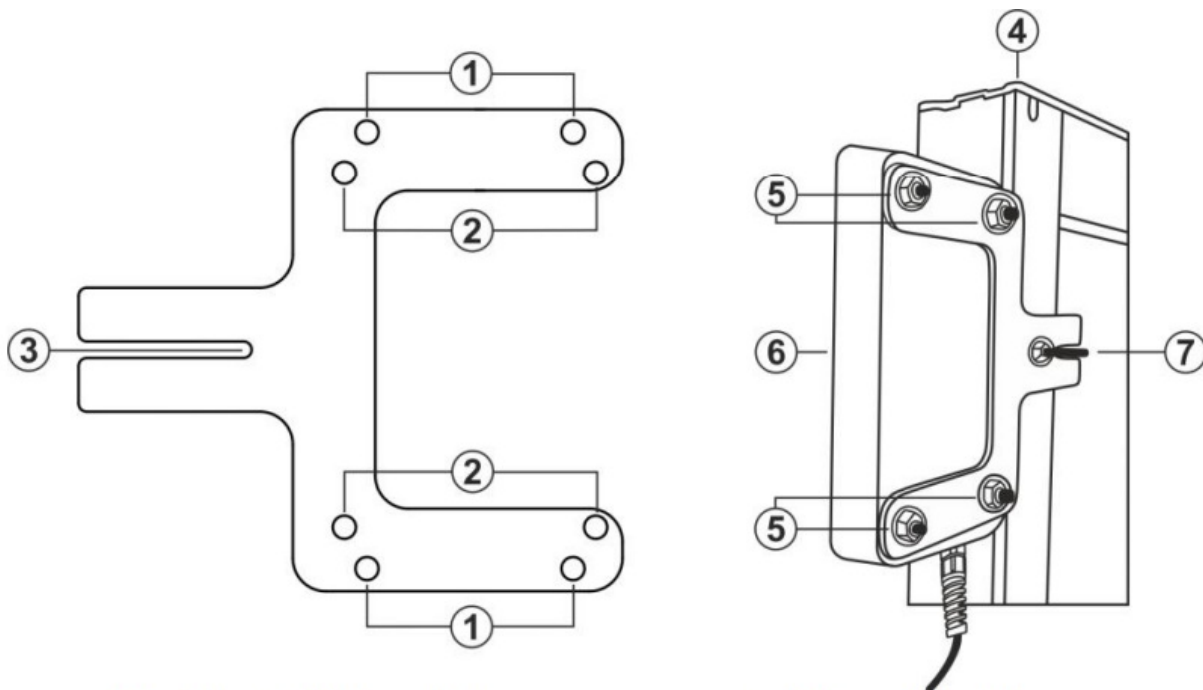

Fig. 2 Installation of the accessory onto PV modules' frame
1. Fasten the provided bracket (see Fig.2 – left side) in a central position with respect to the axis of the PV modules (see Fig.2 – right side). The bracket is provided with a fastening system with screws, compatible with the holes found on the back side of the PV modules' frame (see Fig.2 – part 3).